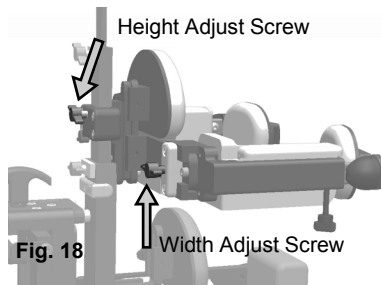

Fig. 18
- Slide the Lateral Chest System up or down on the extension tube to desired height. Tighten height adjustment screw securely (fig. 18).
- Slide pads inward, making contact with the body in the desired upper body posture and tighten adjustment screws (fig. 18).
- Adjust the depth of the forward chest pads to hold the upper body firmly against the rear pads. (fig. 18).